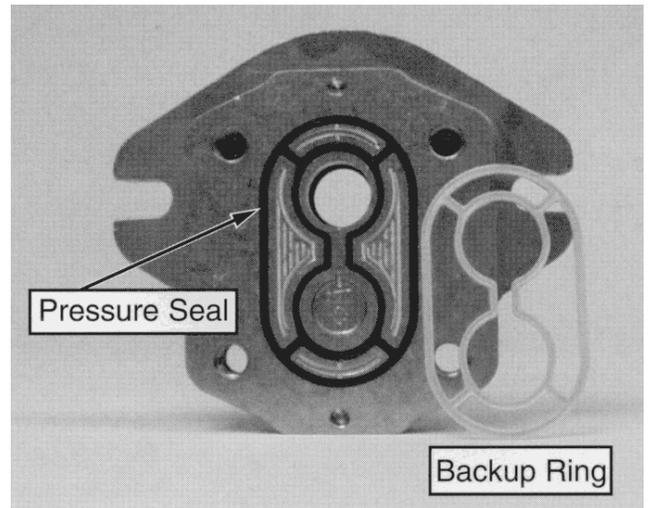

Figure 60
8. Carefully remove and discard O-rings, pressure seals and back-up rings (Fig. 60) from motor. Do not cause any damage to the machined grooves during the removal process.